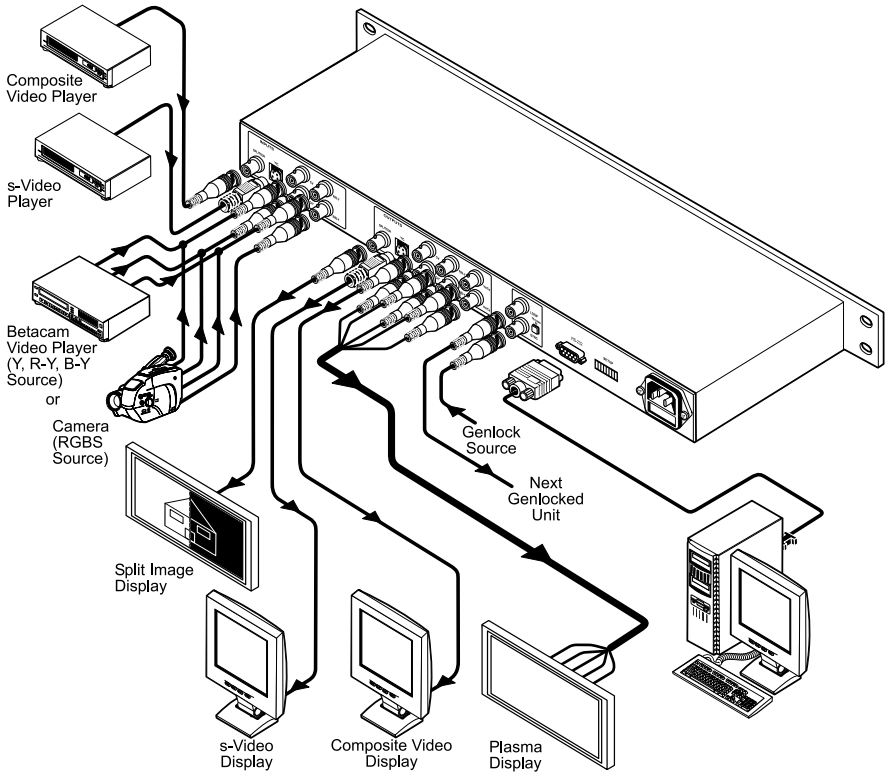

Figure 3: Connecting the SP-10D Digital Video Processor
You can use your **SP-10D** to convert composite video, s-Video, or component video (YUV or RGB/S) signals to composite video, s-Video, and1 component video (YUV, RGsB, RGBS, RGBHV). The processing can be evaluated on a “Before/after” split-screen, as the example in Figure 3 illustrates.
8. Connect the power cord4 (not illustrated in Figure 3).
The example in Figure 3 illustrates how to connect your **SP-10D**: